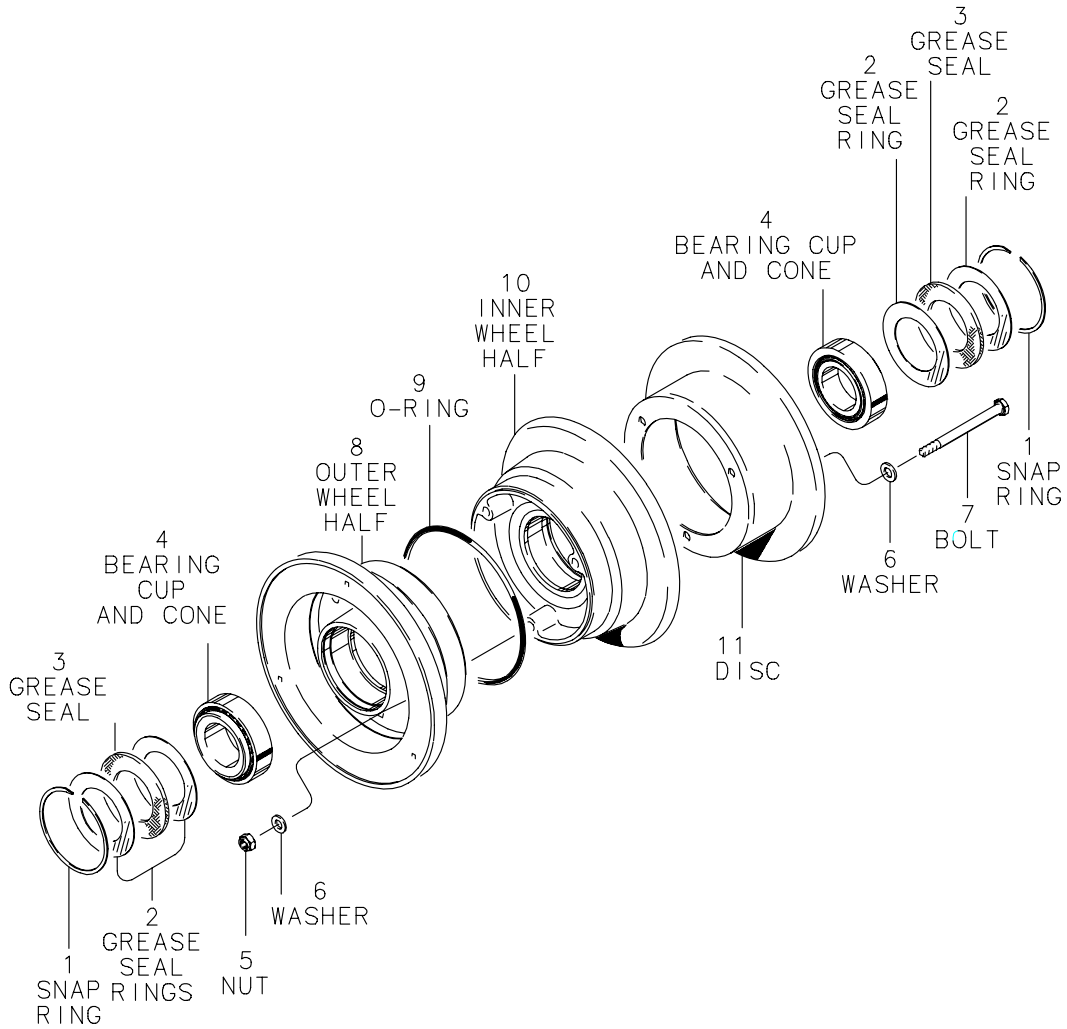

Figure 4 - Typical Main Wheel Assembly
Wheels are made from either aluminum castings, magnesium castings, or aluminum forgings. The wheel is of the divided type, incorporating inner wheel half (10) and outer wheel half (8), Ref. Figure 4, which are fastened together with tie bolts (7), washers (6), and nuts (5). The brake disc (11) is attached to the wheel by the tie bolts. In a few designs, the brake disc bolts are threaded directly into inserts pressed into the back of the inboard wheel half. Wheels fall into two categories, tubeless and tube type. An o-ring (9) fitted between the two wheel halves provides the air seal for wheels designed to operate with tubeless tires. The wheel rotates on two tapered roller bearings (4) which seat in bearing cups in the hubs. Grease seals (3) provide protection and lubricant retention for the bearings. All new product shipped will have the bearings packed with the appropriate grease (refer to Section 300 Off-Aircraft Maintenance, paragraph 3.A. Bearing Grease). Felt grease seals are shipped dry. Remove the felt seals and lightly coat all surfaces of the felt with the wheel bearing grease and reinstall prior to wheel use. Hubcaps, when used, are secured to the outboard wheel half by a snap ring (1) or three attachment screws. Full wheel covers are fastened by three attachment screws.